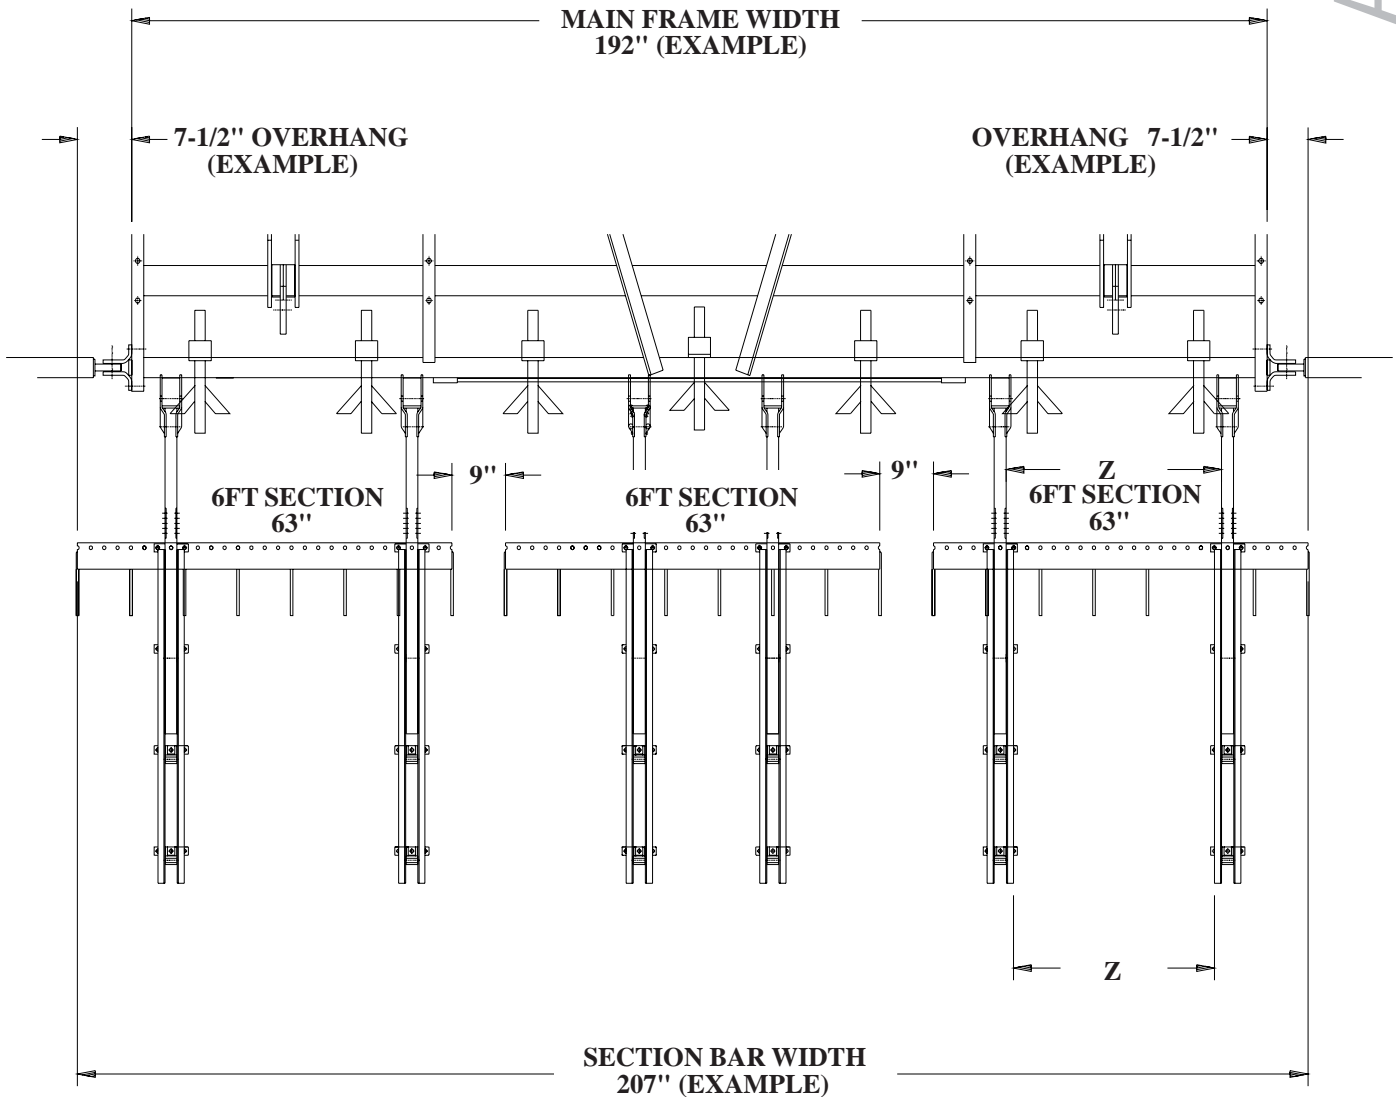

Fig. 2
Determine the section bar overhang. See the SAMPLE on fig 2.
See fig 2.
Once the No. 1 section bars are in position, measure the distance (Z) between the mounting arms as shown in Fig. 2. front and back to ensure that the arms are parallel. If they are not, move the arms on the rear bar of the cultivator to position them correctly while maintaining the section location relative to the unit centerline.